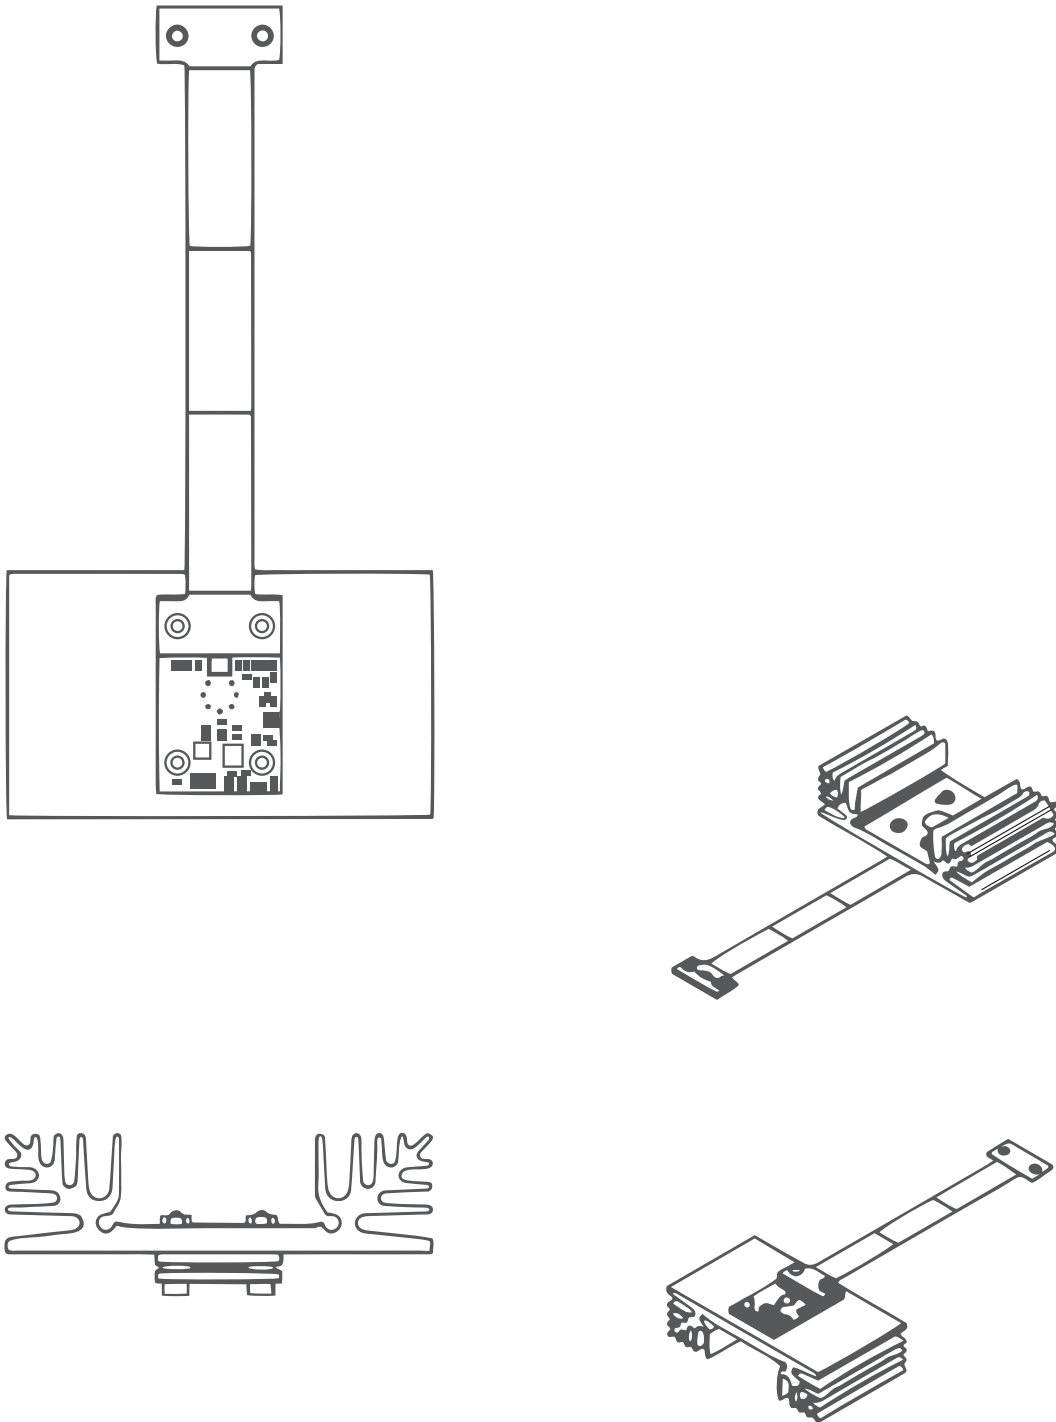

FIGURE 22. Example application of AMS3140-01/AMS6140-01 with flexible PCB
- Semi-flexible PCB. Receptacle Amphenol 101R014FB110 has to be placed on the rigid part and the flexible part can be used to connect signals and power supplies to another PCB (FIGURE 22).